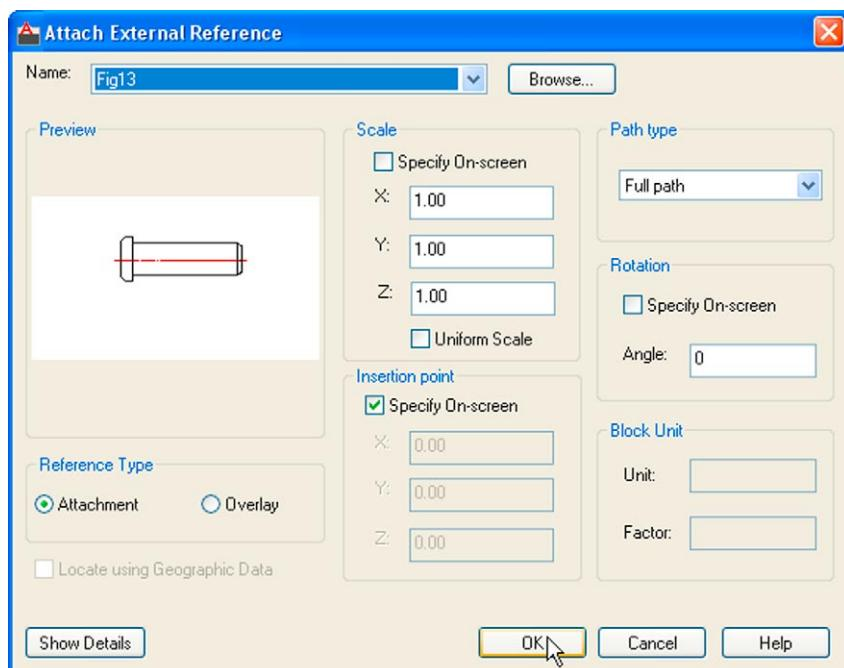

Fig. 10.16 The Attach External Reference dialog
- Click its **Attach** button and select **Attach DWG...** from the popup list which appears when a *left-click* is held on the button. Select the drawing of a spindle (**Fig13.dwg**) from the **Select Reference file** dialog which appears followed by a *click* on the dialog's **Open** button. This brings up the **Attach External Reference** dialog (**Fig. 10.16**) showing **Fig13** in its **Name** field. Click the dialog's **OK** button.